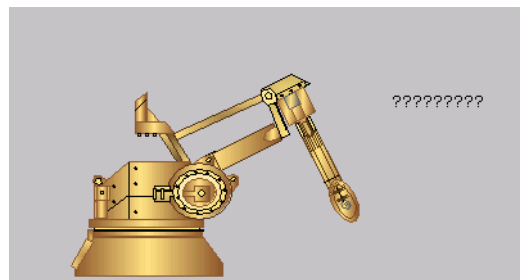

Figure 5.6. Process Point Dynamic Object Placement
1. Click on the **Process Point (PPT)** dynamic button located on the **Dynamics** toolbar near the bottom of the screen, as shown in **Figure 5.6**.
2. The cursor turns into "??????" and looks for a place to draw the process point. Click on the area just to the top right of the robot arm, as shown in **Figure 5.6**.